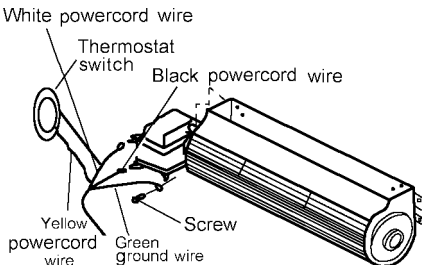

Figure 13-Removing Wires From Blower
2. Disconnect power cord wires from blower motor (if connected) (see Figure 13).
3. Disconnect green ground wire from blower housing (if connected) by removing screw holding wire terminal (see Figure 13).
9. Attach the terminal ends of the white and black power cord wires to the terminals on the blower motor (see Figure 13). Push firmly.
10. Attach the terminal end of the green power cord wire to the front tab of the blower housing using black screw provided (see Figure 13).